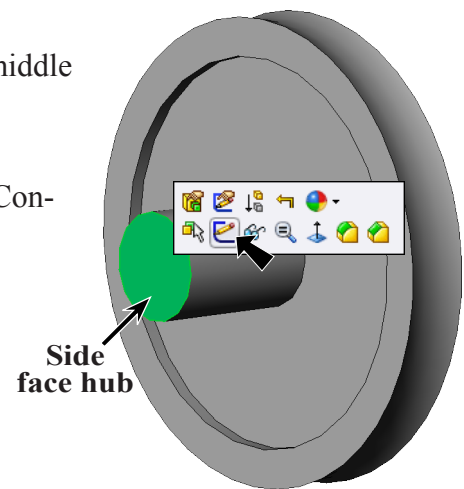

Fig. 20
Step 1. Rotate view slightly to view **inside of rim**, hold down middle mouse button (wheel) and drag to rotate view, **Fig. 20**.
Step 2. Click **inside face of hub** and click **Sketch**  on the Content menu, **Fig. 20**.